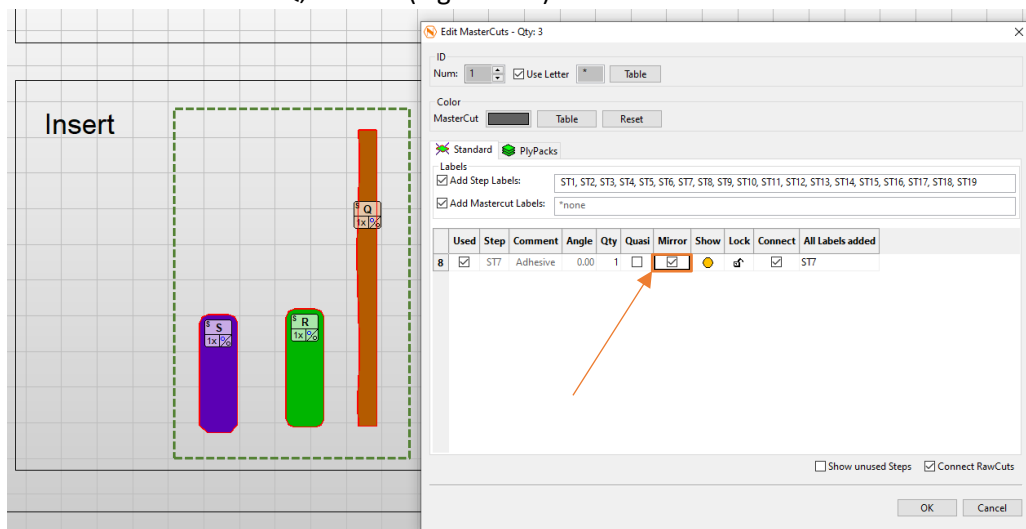

Figure 282
- MasterCuts with IDs Q, R and S (Figure 282).